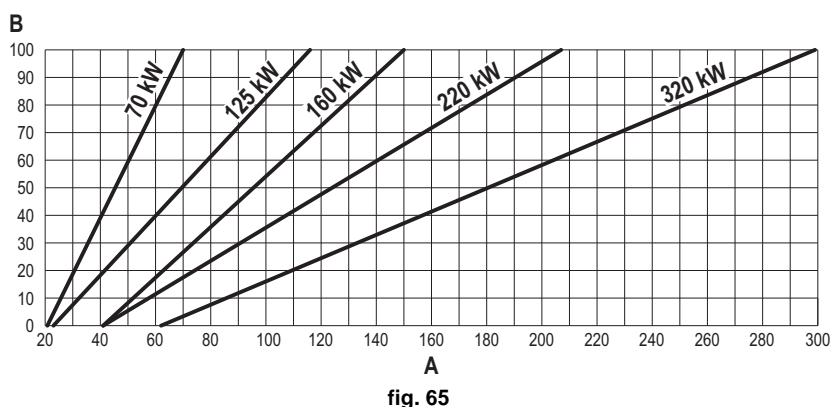

fig. 65
- Press the **contextual buttons 1 and 2** to increase or decrease the heating capacity (minimum = 00 - maximum = 100). See the diagram “Heating Capacity Adjustment” (fig. 65).